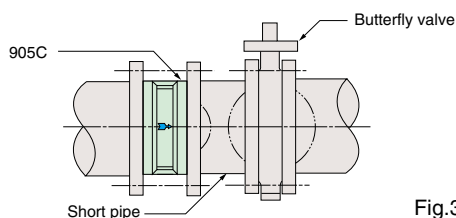

Fig.3
- Always place an extension pipe between a Bata-Check valve and butterfly valve. Never connect the two valves directly together. (Fig. 3)